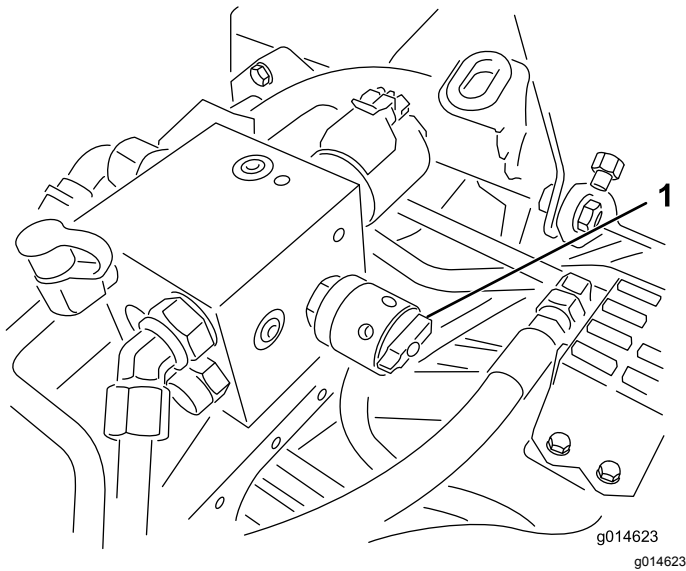

Figure 48
4. To set the reel speed, rotate the knob (Figure 48) until the indicator arrows are in line with the number designating desired setting.